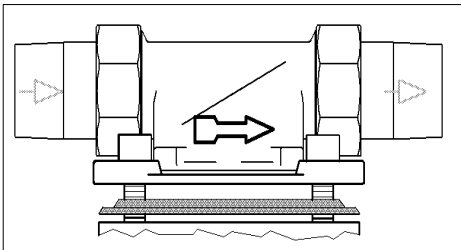

Fig. 3: Built-in rotary flange
- Direction of flow (see fig. 3)